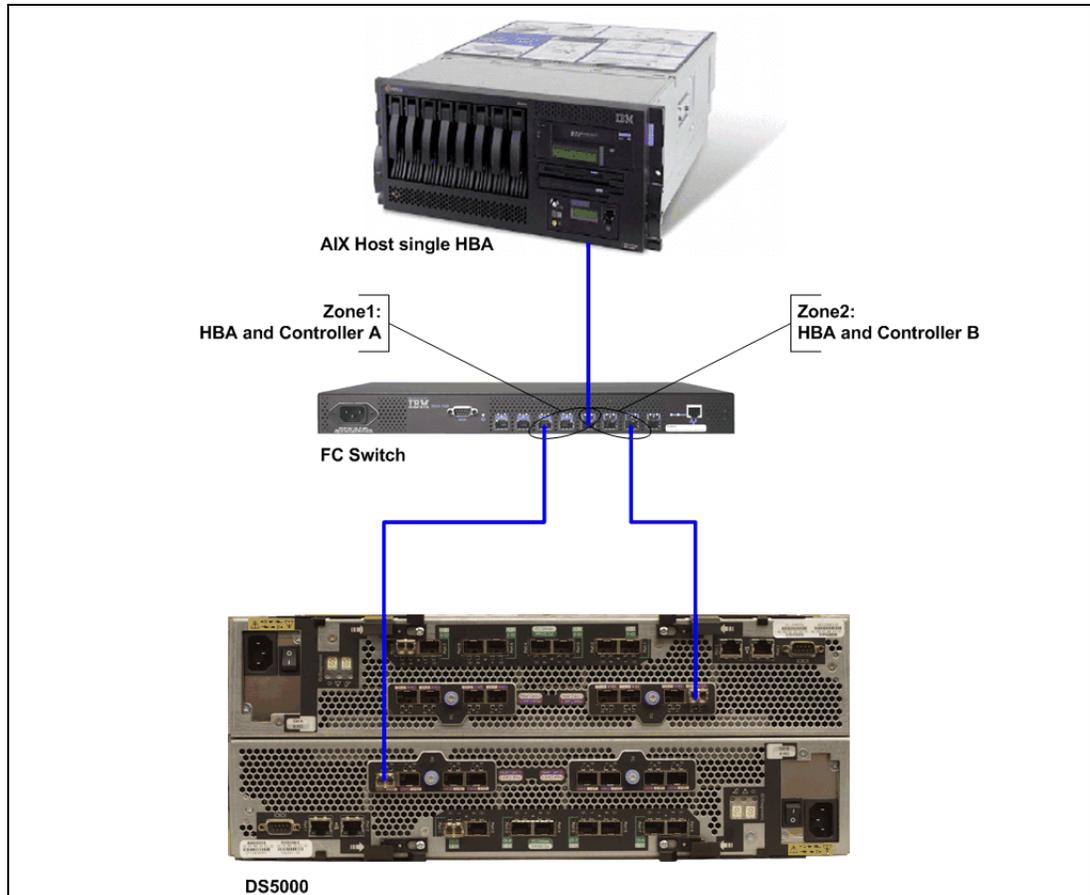

Figure 4-49 Single HBA configuration in an AIX environment
- ▶ Single HBA configurations are allowed, but each single HBA configuration requires that both controllers in the DS5000 Storage Server be connected to the HBA through a switch with both controllers zoned to the HBA, as shown in Figure 4-49.